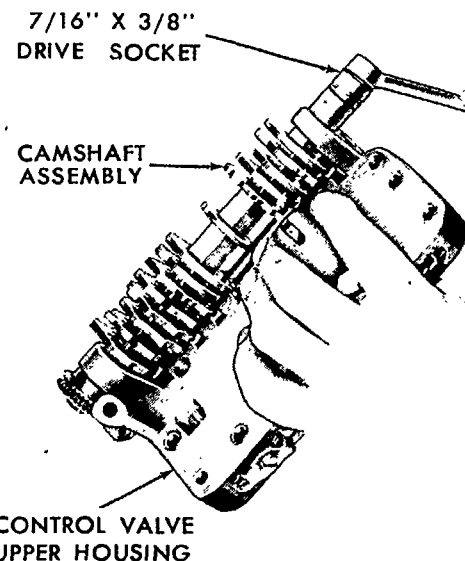

Figure 103
7. To remove the trunnion from the left end of the camshaft, insert a $\frac{3}{4}$ "-20 x $1\frac{1}{8}$ " coarse thread, heat-treated bolt supported by a $\frac{7}{16}$ " x $\frac{3}{8}$ " drive, socket, and flat washer, and withdraw the trunnion from the shaft, as shown in Figure 103.